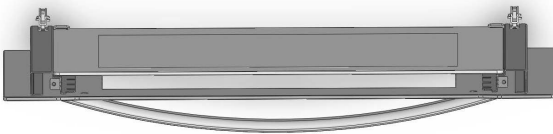

Fig. 6.6
2. Make a solution of water (85%), white vinegar (10%) and dish washing detergent (5%) and spray liberally on to the door, side walls and back wall of oven cavity (**Fig. 6.6**).